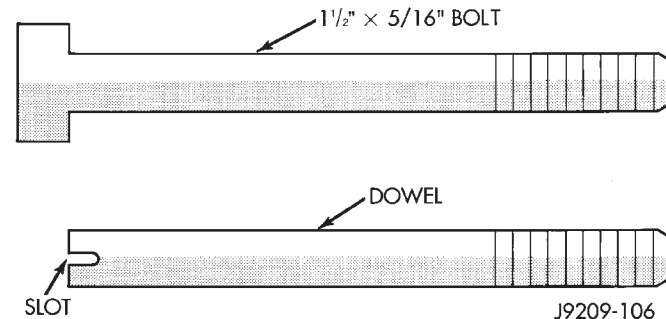

Fig. 44 Fabrication of Alignment Dowels
(1) Fabricate 4 alignment dowels from 5/16 x 1 1/2 inch bolts. Cut the head off the bolts and cut a slot into the top of the dowel. This will allow easier installation and removal with a screwdriver (Fig. 44).
(1) Fabricate 4 alignment dowels from 1 1/2 x 5/16 inch bolts. Cut the head off the bolts and cut a slot into the top of the dowel. This will allow easier installation and removal with a screwdriver (Fig. 44).